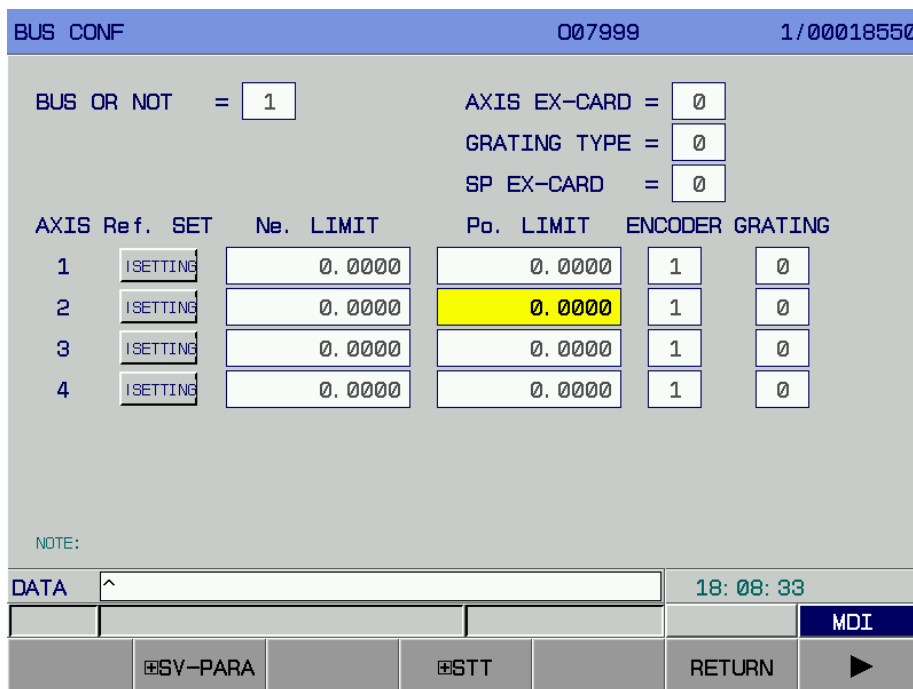

Figure 1-4-1
4. Press the key **SYSTEM**, and then press **[F5] Bus Configuration** to enter the page for the settings (Figure 1-4-1):